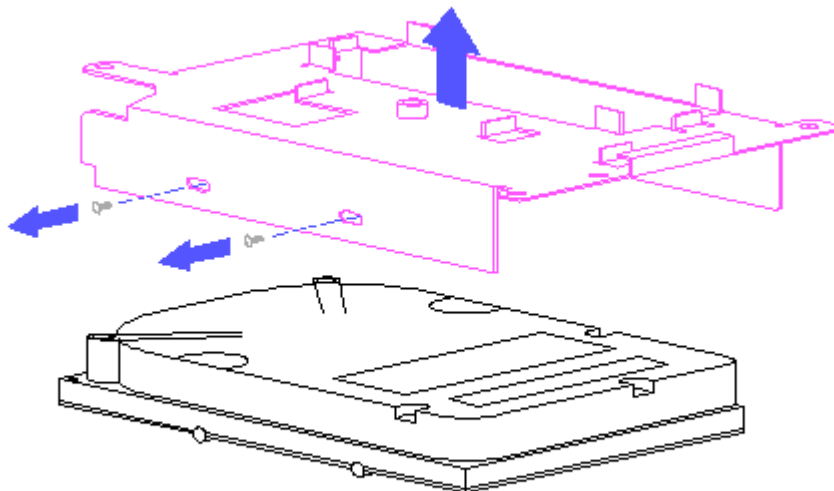

Figure 2-28. Removing the Hard Drive from the Hard Drive Bracket
6. To remove the hard drive from the hard drive bracket, remove the two screws from each side of the bracket and slip the hard drive out of the bracket (Figure 2-28).